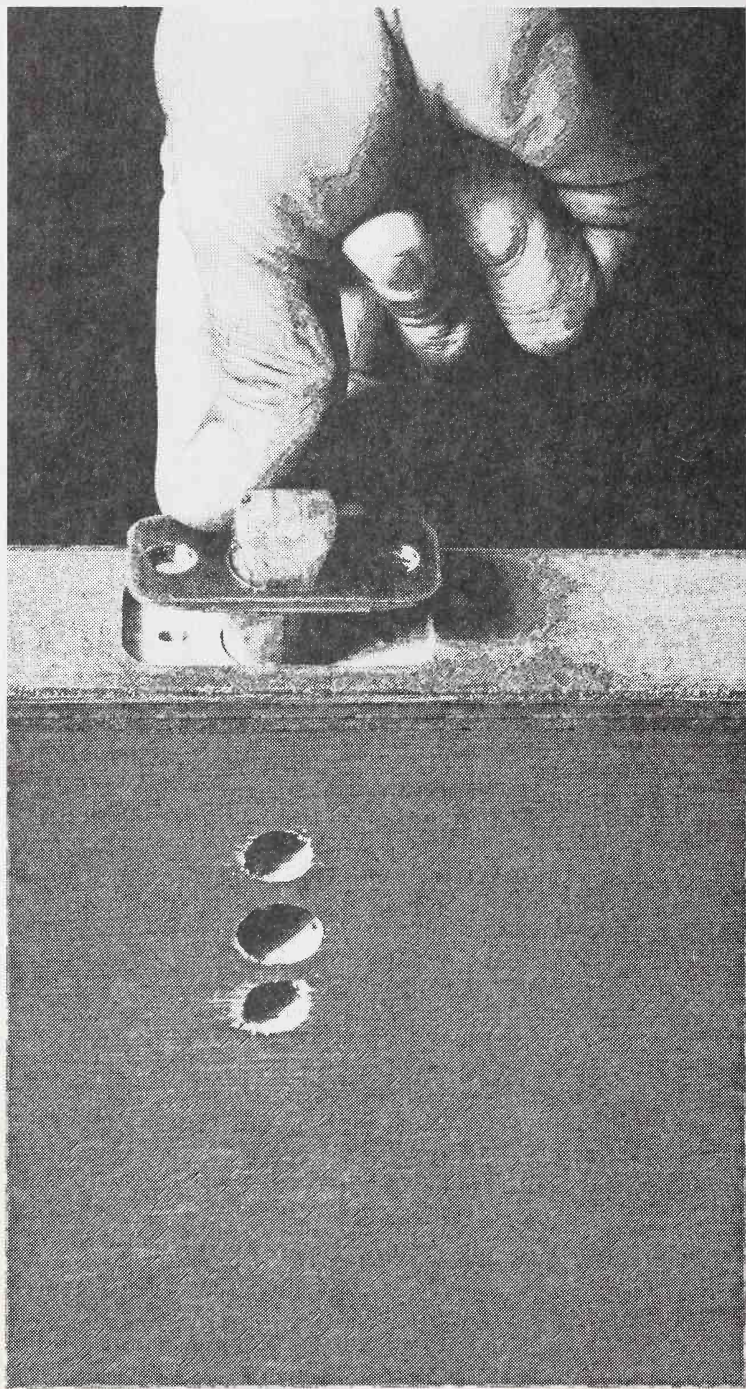

Fig. 18-97.
2. Remove the latch (Fig. 18-97).